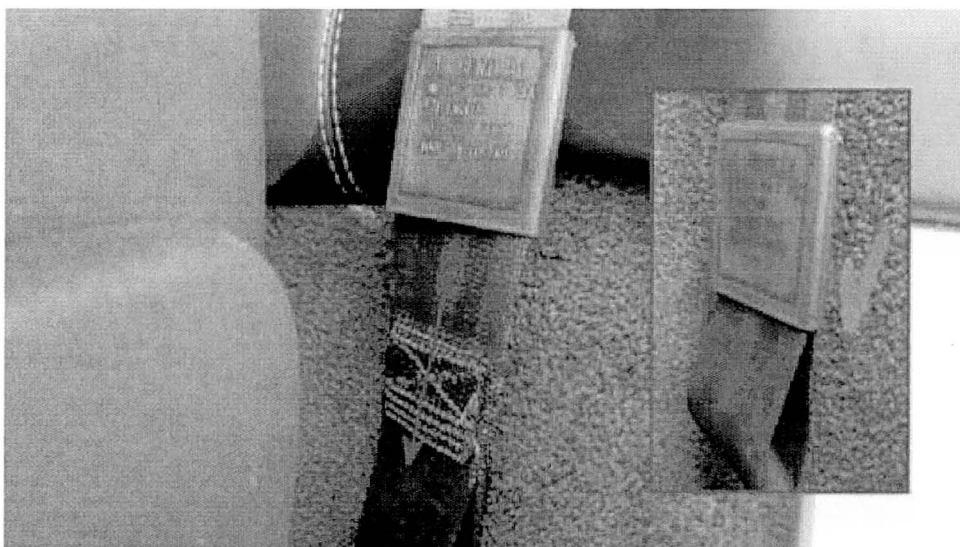

Figure 6
6. Once the burrs have been removed remove the masking tape clean off any dust produced during the process and slide the plastic sleeve back into its correct position over the seat belt webbing stitching (see Figure 6)